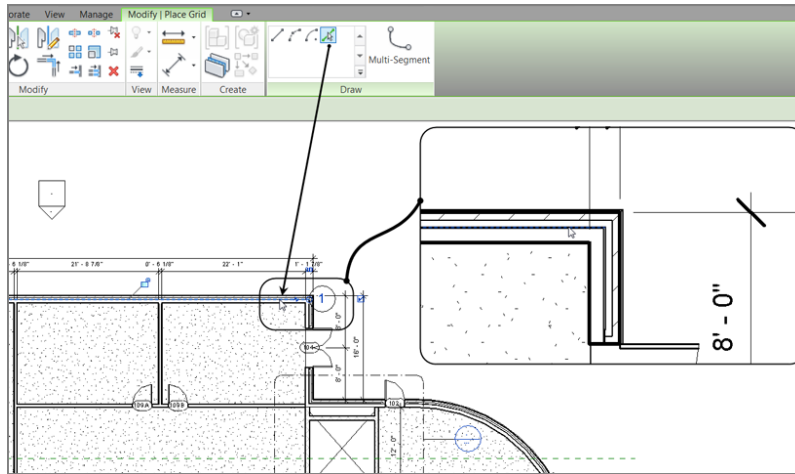

FIGURE 8.2: Your first column grid
- 4. On the Draw panel of the Modify | Place Grid tab, click the Pick Lines icon, as shown in Figure 8.2.
5. Pick the centerline of the north wall (see Figure 8.2).